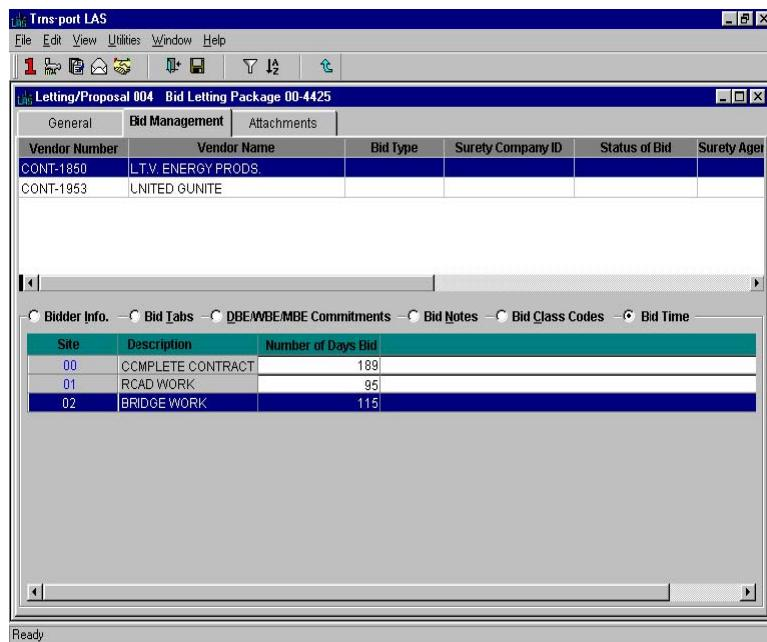

Figure 9-1. Bid Time Page of the Bid Management Tab
3. Click the **BID MANAGEMENT** tab and then click the **BID TIME** option button. Trns•port displays a list of all the contract sites with site descriptions and any Number of Days Bid currently associated with the bidder (see Figure 9-1).